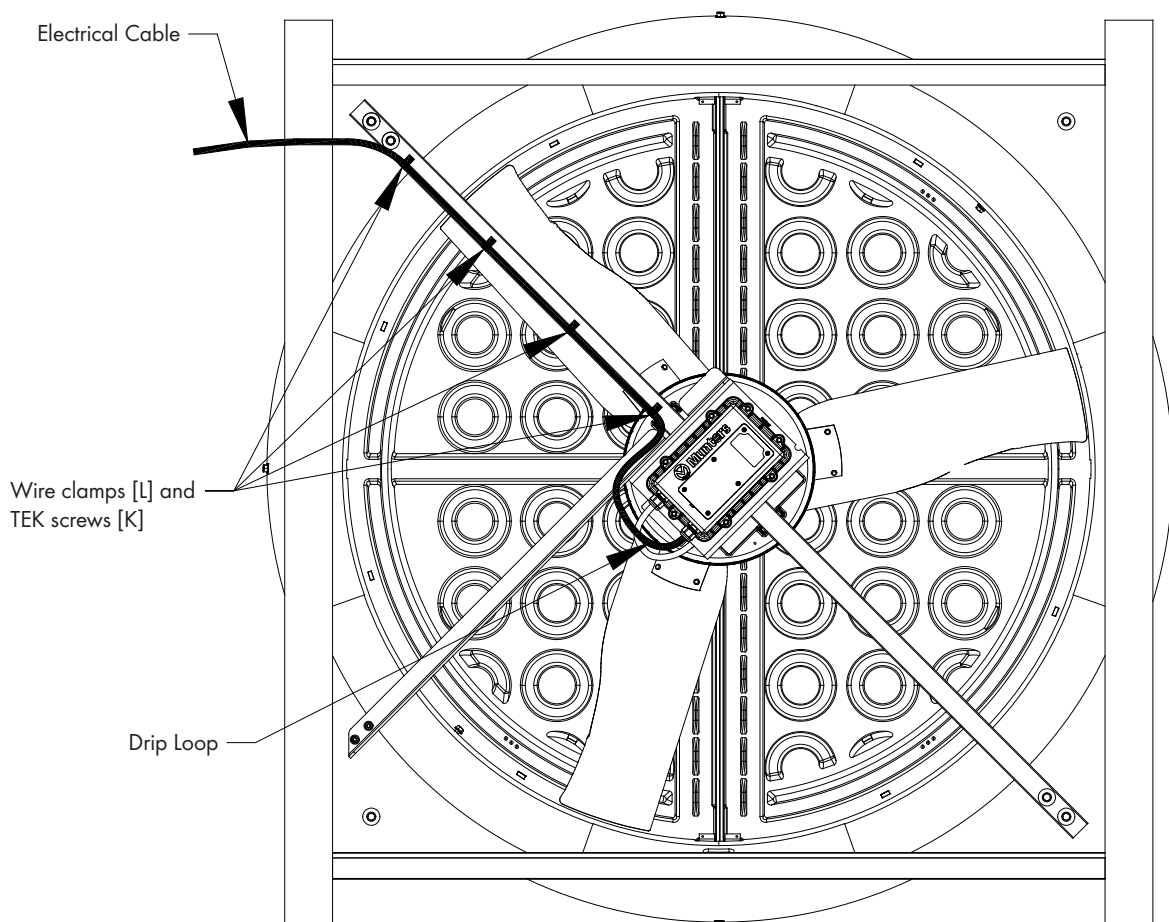

Figure 15A
The Munters Drive Fan comes with a coil of electrical cable that is pre-wired to motor. Find the end of the cable and route it outside the fan and connect it to the incoming power supply and/or the safety cut-off switch. (Safety cut-off switch by others). Create a drip loop in the bottom of the cable and then fasten it to the strut using (4) wire clamps [L] and TEK screws [K]. Attach the new cable to the existing power supply for the fan. See Figure 15A & 15B. Continue on next page.